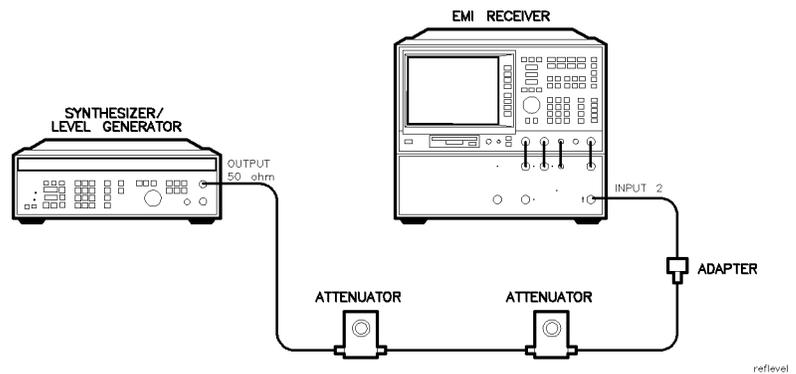

Figure 2-10. Reference Level Accuracy Test Setup
2. Connect the equipment as shown in Figure 2-10. Set the 10 dB step attenuator to 20 dB attenuation and the 1 dB step attenuator to 5 dB attenuation.